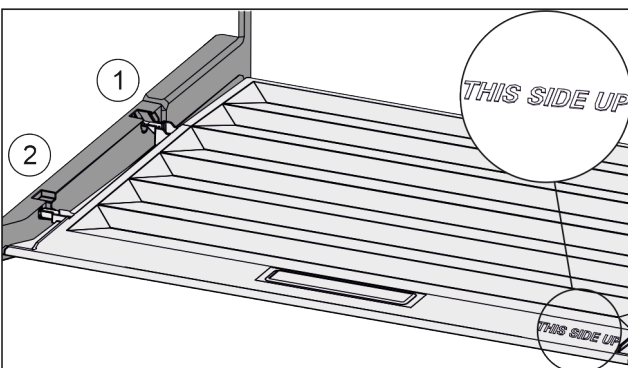

Fig. 158
- ▶ Insert the lip of the cover over the opening of the rear bracket Fig. 158 (1) and click into place Fig. 158 (2).